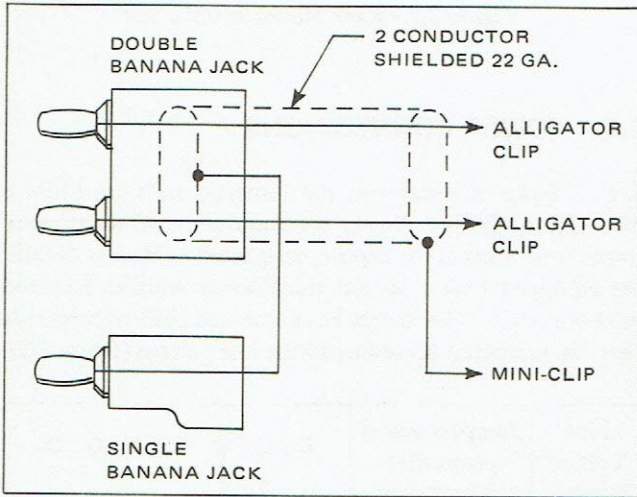

Figure 2.3 - Cabling Diagram, Binding Posts
2.15 Input cables to fit this type of connector can be ordered from Dana (P/N 402190). Figure 2.3 is a wiring diagram of this cable included for assistance to users desiring to construct their own cables.